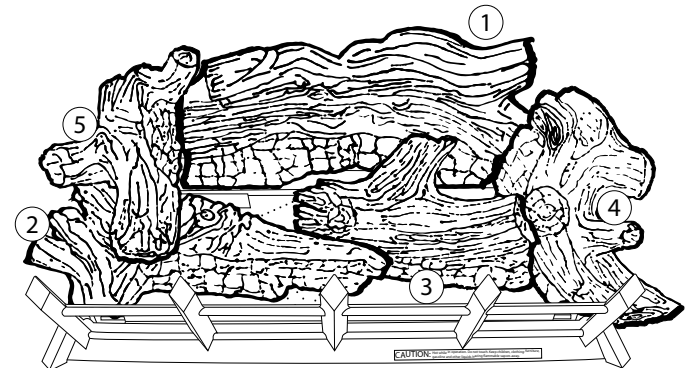

Figure 47
5. Place the top left log (#5) on the left side of the burner allowing the log to rest on top of the front left log (#2). (See Figure 47.)